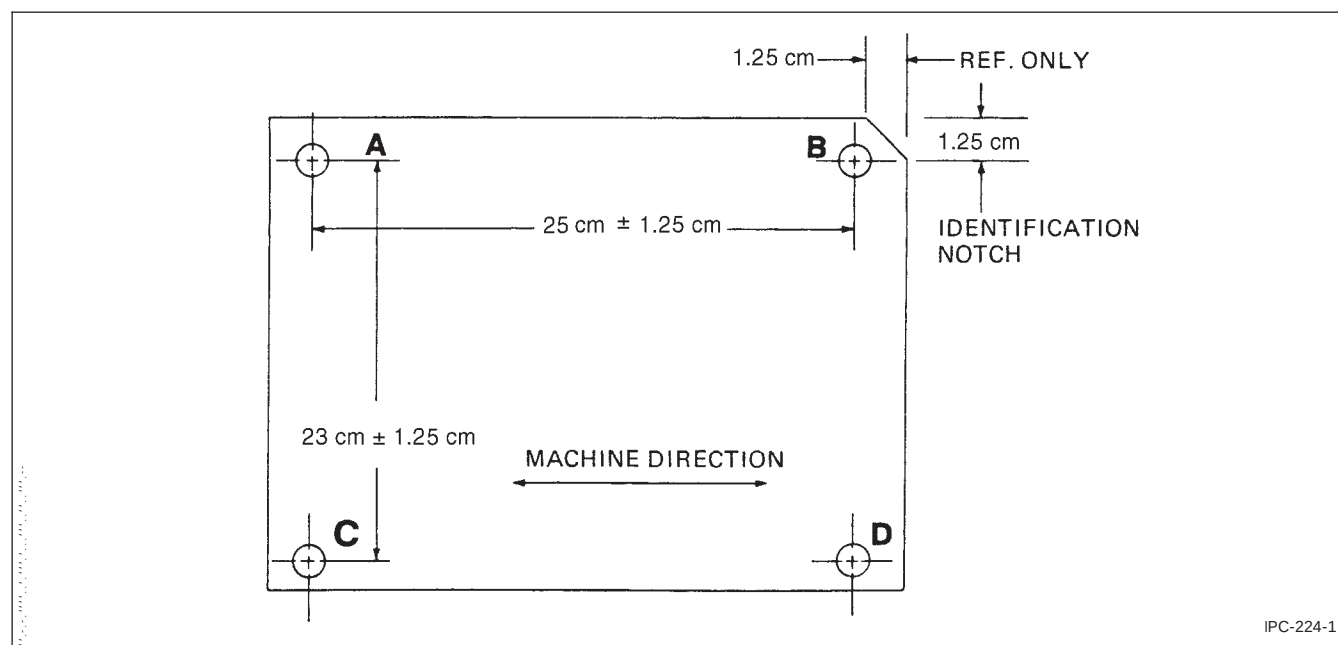

Figure 1 Dimensional Stability Test Pattern
3 Test Specimen The test specimen shall be at least 27 cm x 29 cm of unclad or metal clad dielectric material cut and punched per Figure 1.
5.1 Sample Preparation Scribe 0.125 mm wide lines or punch holes at positions A through D in specimen at locations shown in Figure 1.